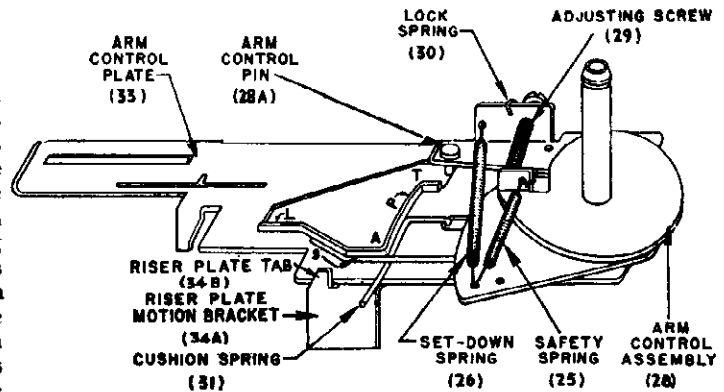

FIGURE 2
(See Figures 2, 5, and 6.)
While a record is playing and as the pickup arm moves toward the center of the record, the arm control pin (28A) on the arm control assembly (28) moves along the portion of the arm control track (33B) as indicated at "P", figure 2. As the record reaches the pickup or trip point, the pin reaches point "T" on the track. As it moves into the recessed position in which it is shown in the illustration, it permits the trip spring (32) to pull the arm control plate (33) forward towards the centerpost (37). As the arm control plate is drawn forward, the stop tab (33A) on the arm control plate (33) is withdrawn from behind the reject catch (51) on the eccentric cam (53). The cam, which no longer is held in place by the stop tab (33A), is pulled over by the eccentric cam spring (54) until the rubber tire makes contact with the knurled roller (46) on the turntable shaft (38A). This knurled roller, which rotates with the turntable shaft, rotates the eccentric cam. In turn, this forces the riser plate assembly (34) back along its guide rods (42A) away from the centerpost (37). As soon as the riser plate begins to move, the push-off cam and shaft assembly (36) rides along the inclined track (34C) of the riser plate (34). This action causes the push-off cam and shaft assembly (36) to be drawn downward; as a result the pickup arm lift (21) presses down on the arm lift bearing pin (15), causing the pickup arm to be raised clear of the record. Then the riser plate tab (34B) contacts and moves the arm control assembly (28) which, since it is coupled to the pickup arm support assembly (23) carries the pickup arm away from the centerpost and clear of the edge of the turntable. As the riser plate (34) continues to travel further along the guide rods (42A), the riser plate motion bracket (34A) contacts and rotates the push-off cam and shaft assembly (36); as a result, the push-off cam (5), which is coupled to the push-off cam and shaft assembly (36) causes the push plate (7B) to drop a record to the turntable.
cam [36B] presents its short radius to the size stop [33C] for the 10-inch setting and presents its long radius to the size change stop for a 12-inch setting.) This variation in distance traveled means that the arm control track (33B) will be in a position closer to the centerpost for the 12-inch setting than for the 10-inch setting. This in turn means that during the change cycle the arm control pin (28A) whose path is determined by the motion of the arm control assembly (28) will leave its recessed position, and will ride along the "S" portion of the arm control track for the 12-inch setting and along the "L" portion for the 10-inch setting. (See Figure 2.)
- (a) Turn adjusting screw (29) (see paragraph 11) clockwise 2 full turns.
- (c) With the changer out of cycle, manually move the arm control assembly (28) outwards as far as it moves freely. In this position, the arm control pin (28A) will be located as indicated at "A" in Figure 2.
- (e) Tighten the two set screws in pickup arm support assembly (23).
14. REMOVING COVER (3) FROM HEAD ASSEMBLY (7).
- (a) To remove cover (3) from head, squeeze cover at ends and lift up enough for cover to come free of rotating plate (7C).
- (b) Remove hairpin spring from hold down plate (4) and slide hold down plate (4) out of rotating plate (7C).
15. RE-POSITIONING PUSH OFF ARM (5).